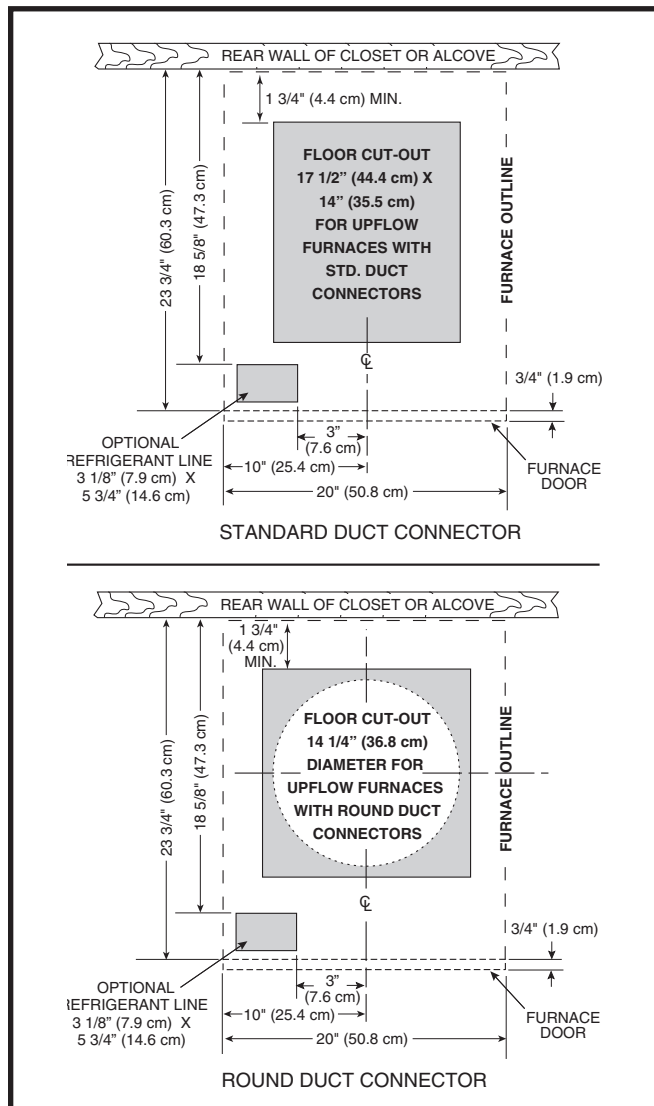
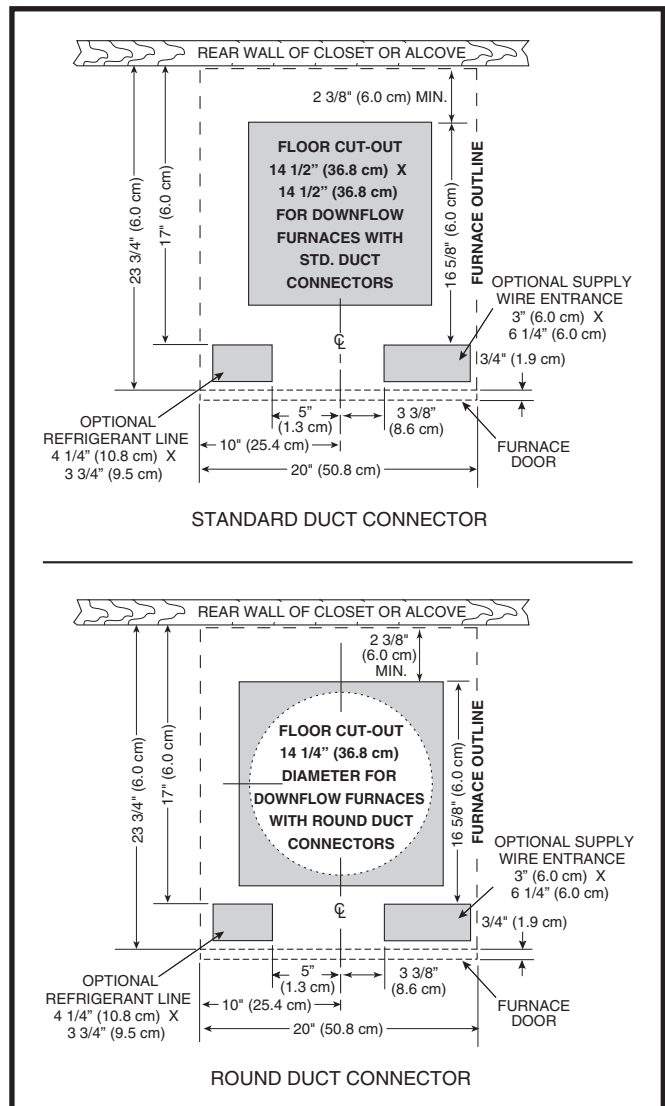

Figure 5. Cut-Out Dimensions for Upflow Appliances
Figure 6. Cut-Out Dimensions for Downflow Appliances
Floor cut-outs must be carefully located to avoid misalignment of the Appliance and air duct. Standard and round cutouts for upflow Appliances are shown in Figure 5 (page 7). The cutouts for downflow Appliances are shown in Figure 6 (page 7).
rest of the duct cut-out to the dimensions shown in Figure 5 or Figure 6.
- a. Mark floor openings as shown in Figure 5 \(page 7\). Provide minimum clearances at rear and left side walls of closet for installation of Appliance and wiring.